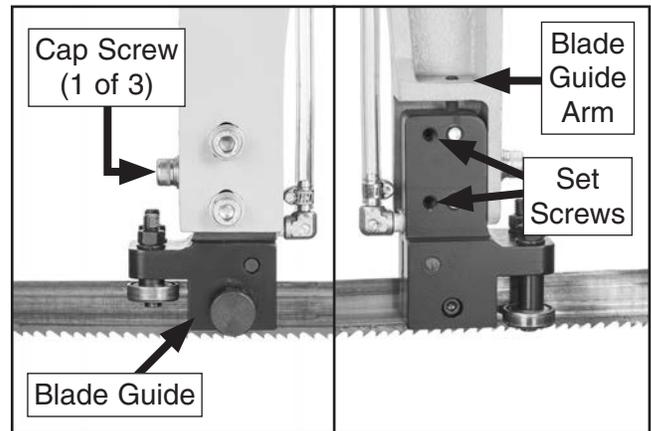

Figure 86. Components for squaring blade to table.
- If blade *is not* square to vise table, Loosen cap screws on both blade guide arms (see **Figure 86**).
- If top of blade tilts away from square, loosen top set screws (see **Figure 86**) and tighten bottom set screws an equal amount while keeping an eye on blade squareness.
- If bottom of blade tilts away from square, tighten top set screws (see **Figure 86**) and loosen bottom set screws an equal amount while keeping an eye on blade squareness.